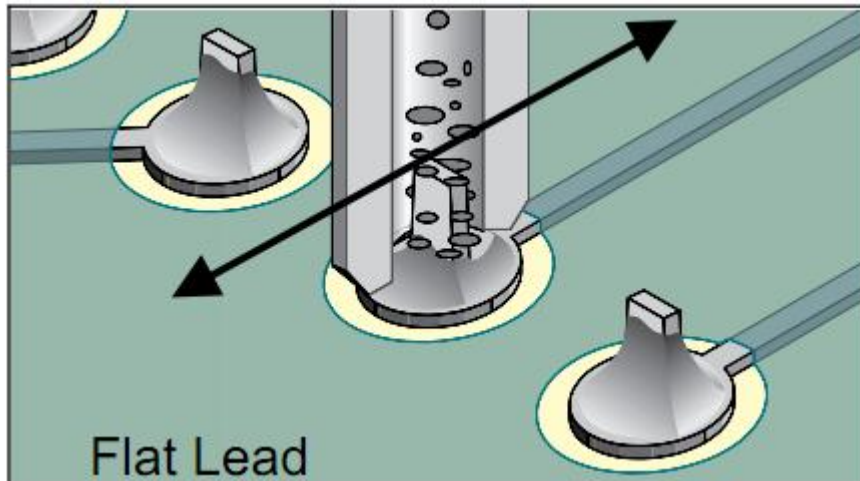

Figure 4 Move Lead & Apply Vacuum
13. For a flat lead, move lead back and forth; for a round lead, use a circular motion and apply vacuum while continuing lead movement. (See Figures 4&5.)